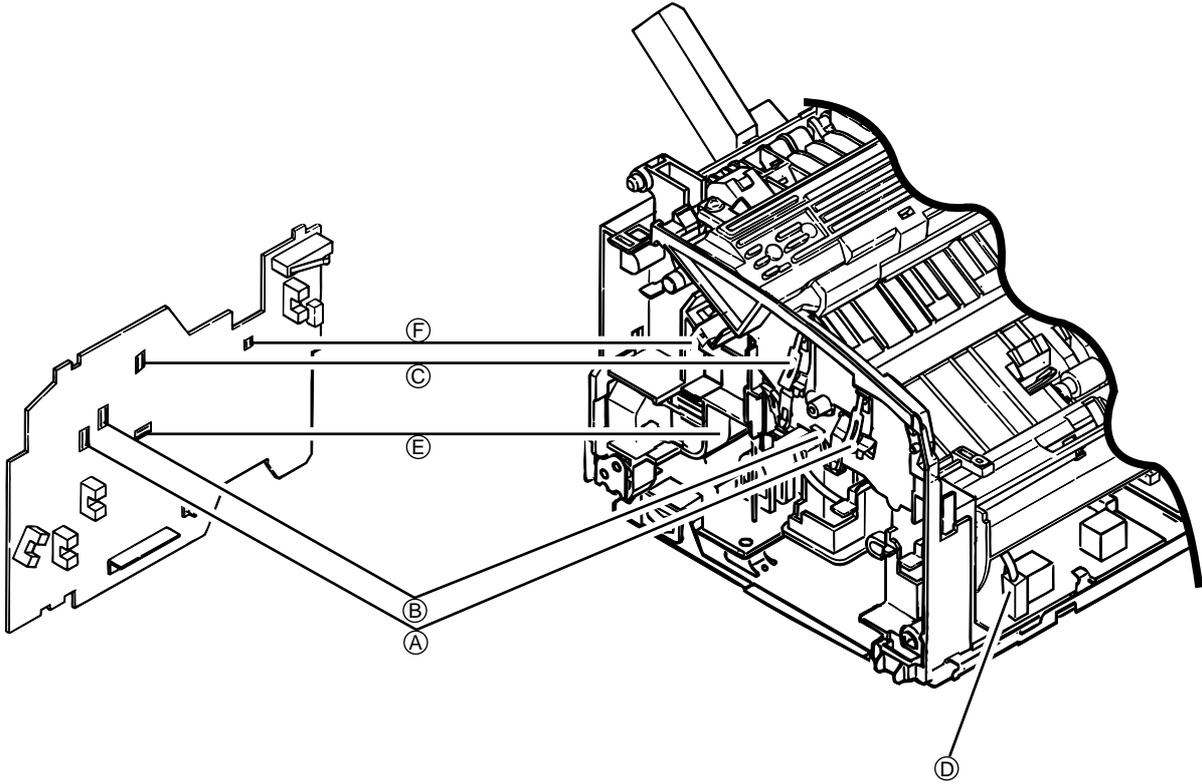

Figure 6-4
▼ No Is the terminal of the I/D unit in correct contact with the contact plate? (See Figure 6-4 (A)(B)(C)(E) and Figure 6-5 (A)(B)(C)(D)(E).)